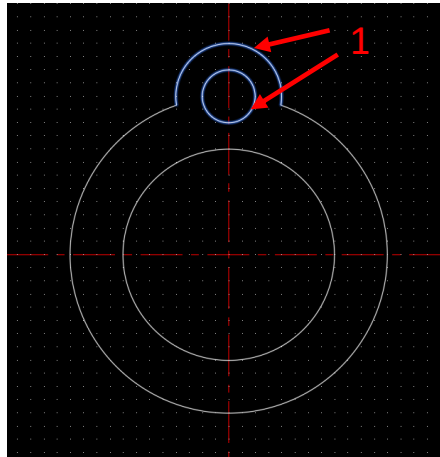

Fig 25
- xix. Select object = **click those portions (1)** for array as highlighted in blue. See Fig 25